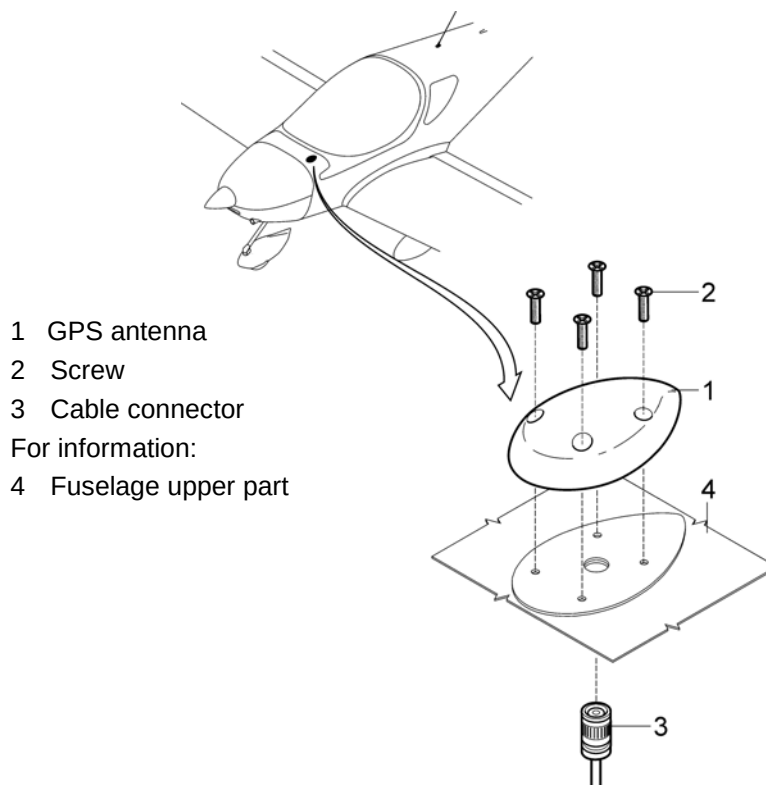

Fig. 12.3.27-1: GPS antenna removal / installation
- (b) Disconnect the connector (4, Fig. 12.3.27-1) from the antenna.
- (d) Remove the screws (2) with and the antenna (1).
- (b) Place the antenna (1, Fig. 12.3.27-1) on the fuselage (4).
- (c) Insert the screws (3) to the holes in the antenna body (1); screw and tighten the screws.
- (e) Connect the connector (3) to the antenna (1).